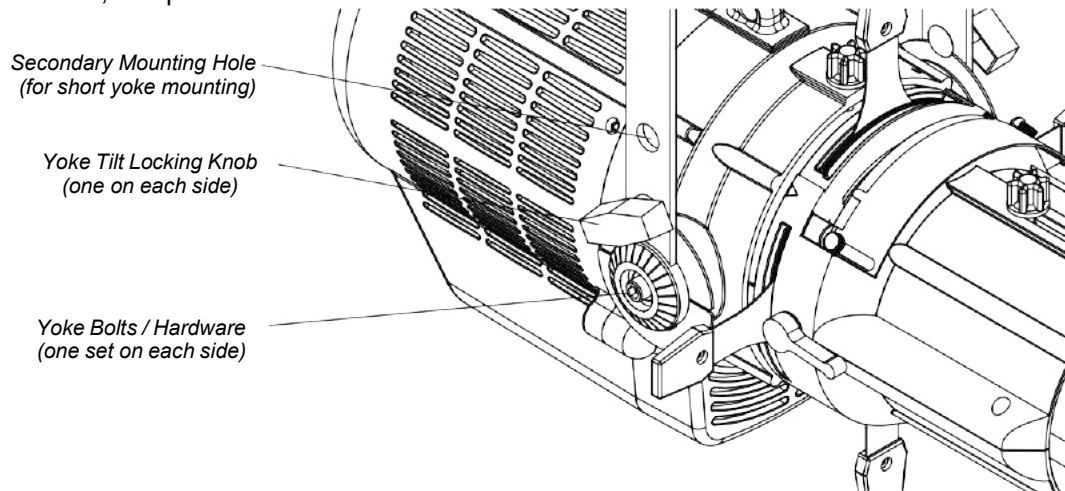

Figure 14: Yoke Hardware
Step 3. As shown in **Figure 14**, using a 1/4-inch hex head wrench (by others), remove yoke bolts, cup washers, and pivot covers. Please note order of hardware for reinstallation. Set hardware aside.